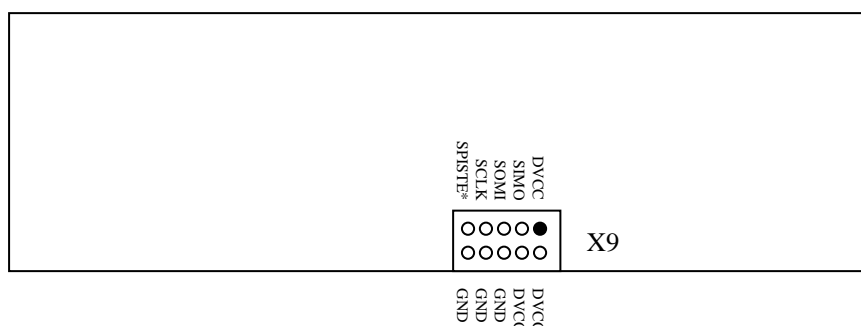

Figure 3-8: Clocked Serial Port Interface (X9)
The clocked serial peripheral interface on the CPT-Mini2810 supports a master/many slave configuration for communication between multiple SPI peripherals. The interface consists of transmit and receive, a serial clock and an enable signal. The interface also provides a +5V (DVCC) and GND signal on the connector. A 10-way IDC socket, **X9**, is used for this interface, with the pinouts listed in Figure 3-8.
- 1 off Master/Slave connection to the plug-in connector (as shown in Figure 3-8)